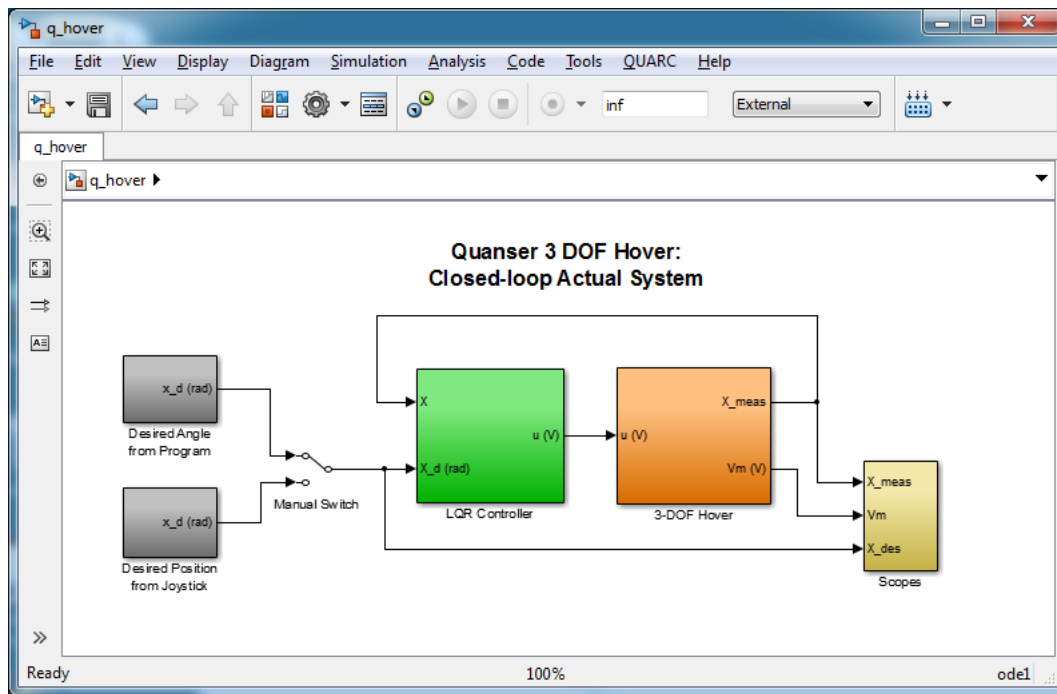

Figure 3.3: Simulink model used with QUARC® to run controller on the 3 DOF Hover.
The `q_hover` Simulink diagram shown in Figure 3.3 is used to perform the balance control on the 3 DOF Hover. The *3 DOF HOVER* subsystem contains **QUARC**[®] blocks that interface with the DC motor and encoders of the 3 DOF Hover system.
7. The desired angle can be also be generated using a USB joystick described in 3 DOF Hover User Manual ([4]). To use the joystick, set the Manual Switch in `q_hover`, shown in Figure 3.3, to the downward position.
4. Open the `q_hover.mdl` Simulink diagram, shown in Figure 3.3.
7. The desired angle can be also be generated using a USB joystick described in 3 DOF Hover User Manual ([4]). To use the joystick, set the Manual Switch shown in Figure 3.3 to the downward positions. The rate at which the desired angle increases or decreases given a joystick position can be changed using the `K_JOYSTICK_X` and `K_JOYSTICK_Y` variables that are set in the `setup_hover.m` script file. Note that the same rate limiter parameter `CMD_RATE_LIMIT` is used for the joystick as well.